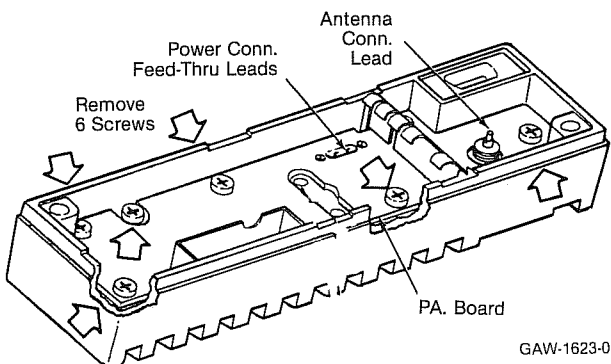

Figure 17
(3) Unsolder the A+ power connector feed-through leads and the antenna connector lead (Figure 17).
(4) (25-watt radio only) Remove the transistor mounting screws as shown in Figure 17.
(5) Remove all the mounting screws for the PA board (Figure 17) and take out the PA board.